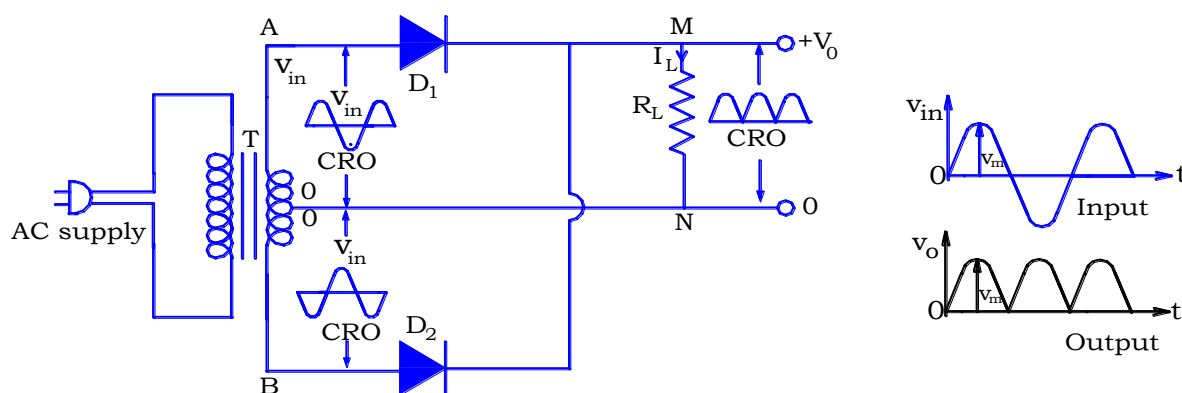

Fig. 6.31 Centre tapped full wave rectifier
The full wave rectifier circuit which consists of centre tapped transformer, two diodes and a load resistor  $R_L$  is shown in Fig. 6.31.
**Activity:** Study the performance of the circuit shown in fig. 6.31 when the diodes are reversed.